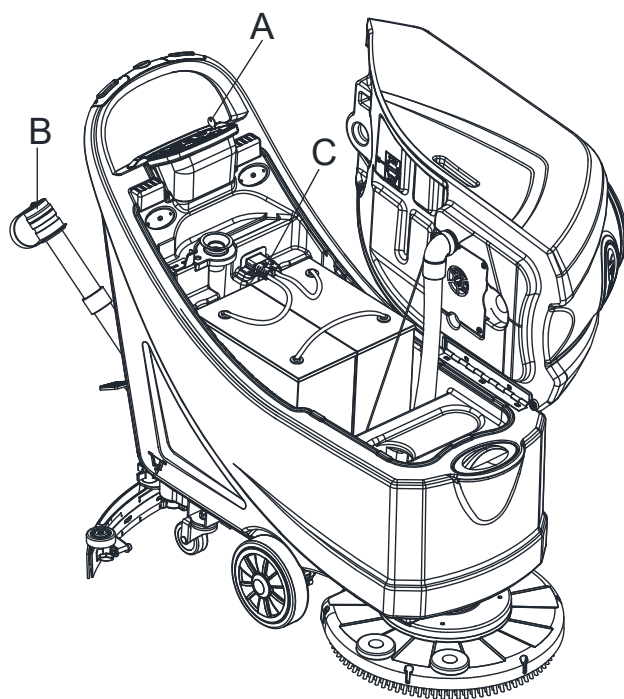

Figure 23
4. Clean the recovery tank lid (A), recovery tank (B), clean water tank (C) and the float ball filter support frame (E). Empty the recovery tank with the drain hose (B, Figure 23).
2. Disconnect the power supply cable (C, Figure 23) from the electrical mains.